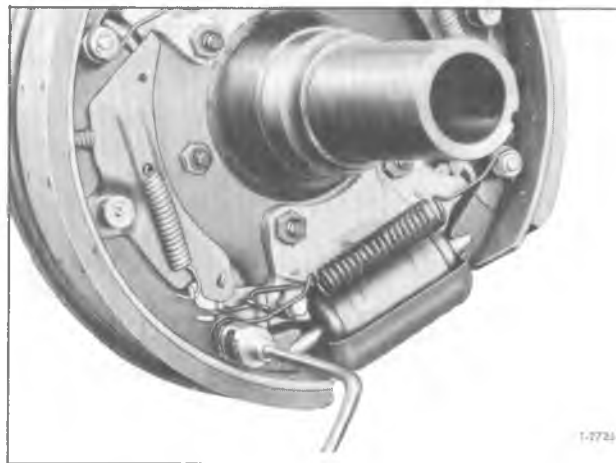

Figure 39—Removing Pull Back Springs
3. Using Tool (J-22348), remove the brake shoe pull-back springs (fig. 39).